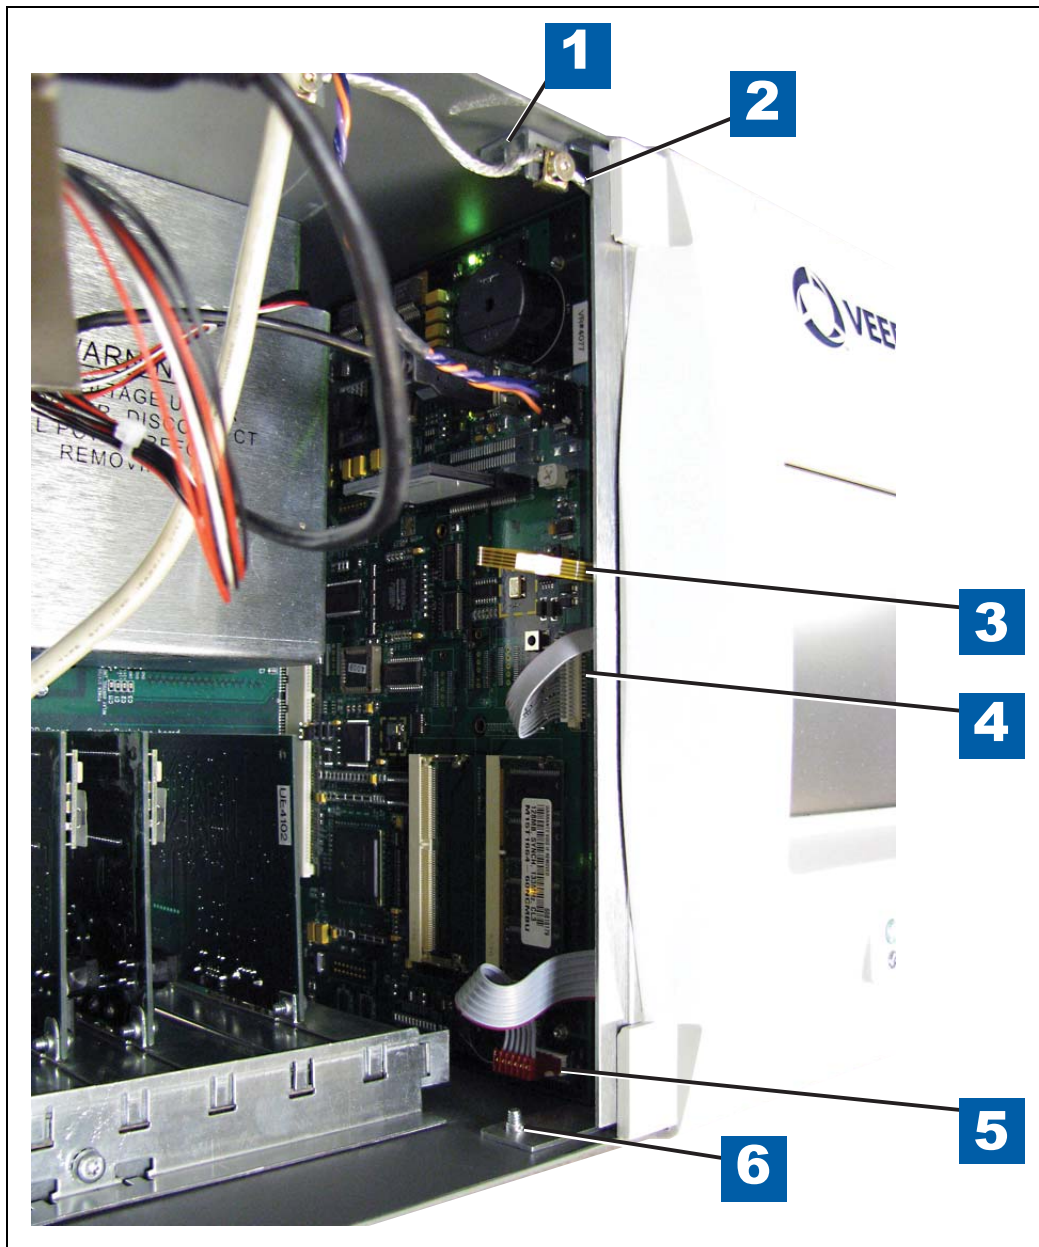

Figure 7. Removing The Three Display Panel Cables
4. Unplug the Display panel's Touchscreen control cable (3) Data cable (4), and LED backlight cable (5) connectors from the CPU board (see Figure 7).
LEGEND FOR NUMBERED BOXES IN Figure 7
6. Remove the top and bottom Display door hinge shoulder screws and remove the door (items 1 and 6 in Figure 7). Retain the two hinge shoulder screws for the TLS-450PLUS upgrade door.